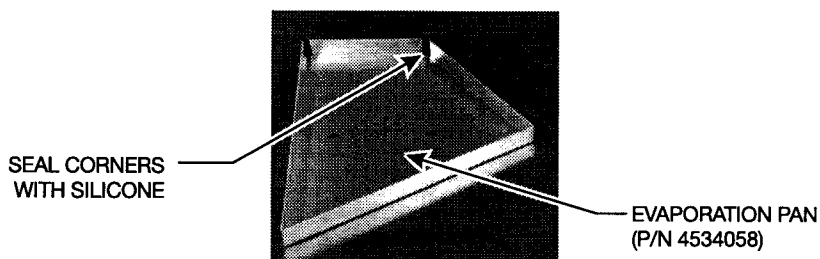

Figure 21
9. Seal the corners of the pan (4534058) with silicone and then insert the new pan under the compressor. **See Figure 21.**